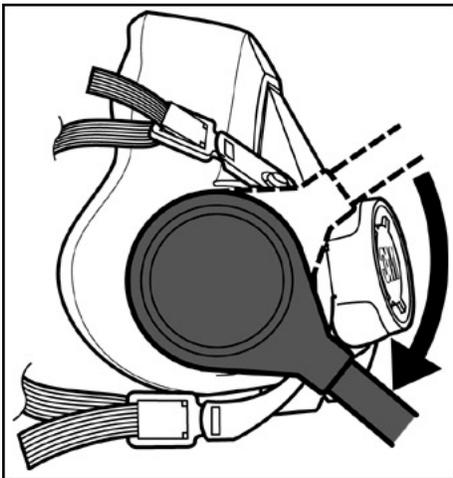

Fig. 4
2. Twist each branch of the breathing tube clockwise a quarter turn until it is firmly seated in the bayonet and cannot be turned further. Do not forcibly overturn as the bayonet could be damaged. (Fig. 4 and 5).